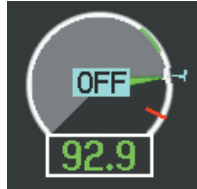

Figure 3-8 Engine Shutdown Indication
- Engine shutdown (normal operations) – When the engines are shutting down normally, the N1 gauges display a light blue “OFF” annunciation (Figure 3-8).